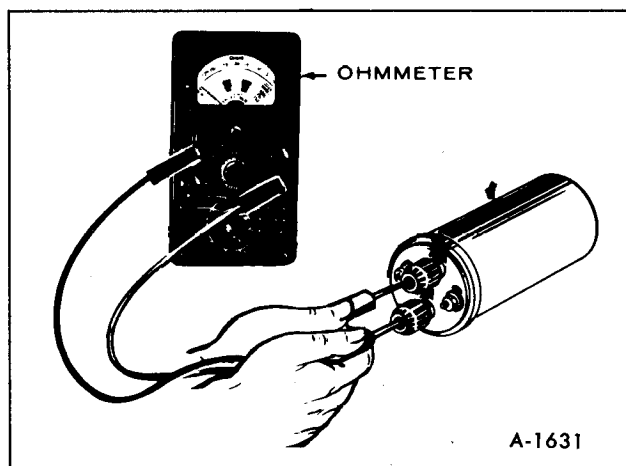

Figure 42—Coil Test
3. Change resistance setting on ohmmeter. Place ohmmeter leads inside spark plug cable holes. Secondary resistance should read 14,000 ($\pm 10\%$) ohms (figure 42).